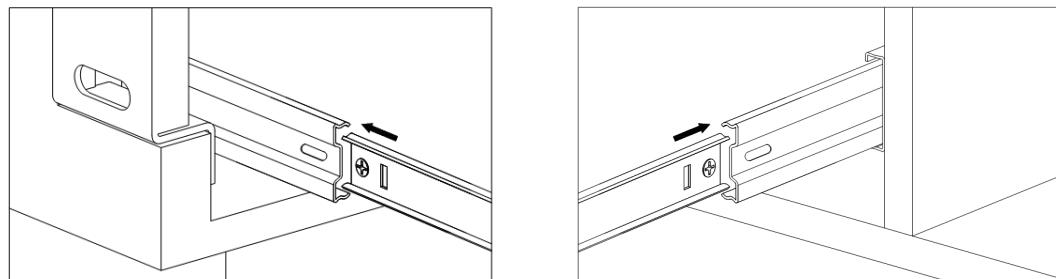

Fig. 9
15. Re-assemble the drawers onto the slide system of the storage unit. Please note that 2 people are required for this step due to drawer's size. Assemble the drawer back into its original position of the Storage Side Frame (A) by aligning the metal glides. Make sure that both sides are properly aligned then gently push the drawer until it is slightly stopped by the slide. See **Fig. 9**. Open and close the drawer 3 times to make sure the drawer operates smoothly.